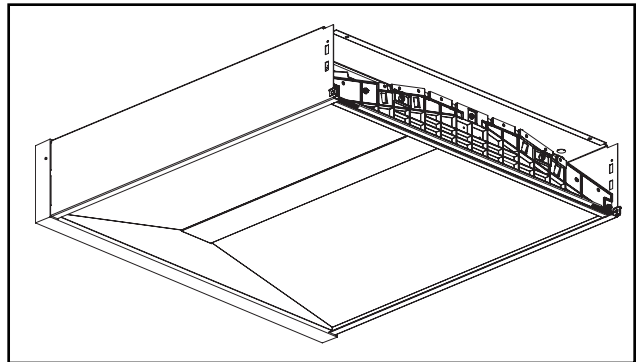

Figure 4.
4. Insert the luminaire in the surface kit. The fixture will rest on the bottom flange of the surface mount kit on all four corners. If the fixture is not resting properly on the bottom flange, lift it up and shift it until it rests into place. (see Figure 4)